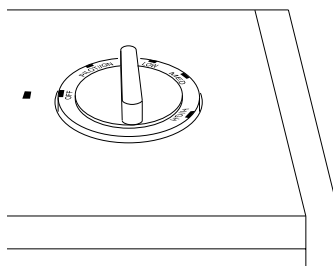

Figure 17 - Control Knob In The OFF Position
3. Turn control knob clockwise  to the OFF position (see Figure 17, page 13).
4. Wait five (5) minutes to clear out any gas. Then smell for gas including near the floor. If you smell gas, STOP! Follow "B" in the safety information at left. If you don't smell gas, go to the next step.
5. Turn control knob counterclockwise  to the PILOT/IGN position. Press in control knob for five (5) seconds (see Figure 17, page 13).